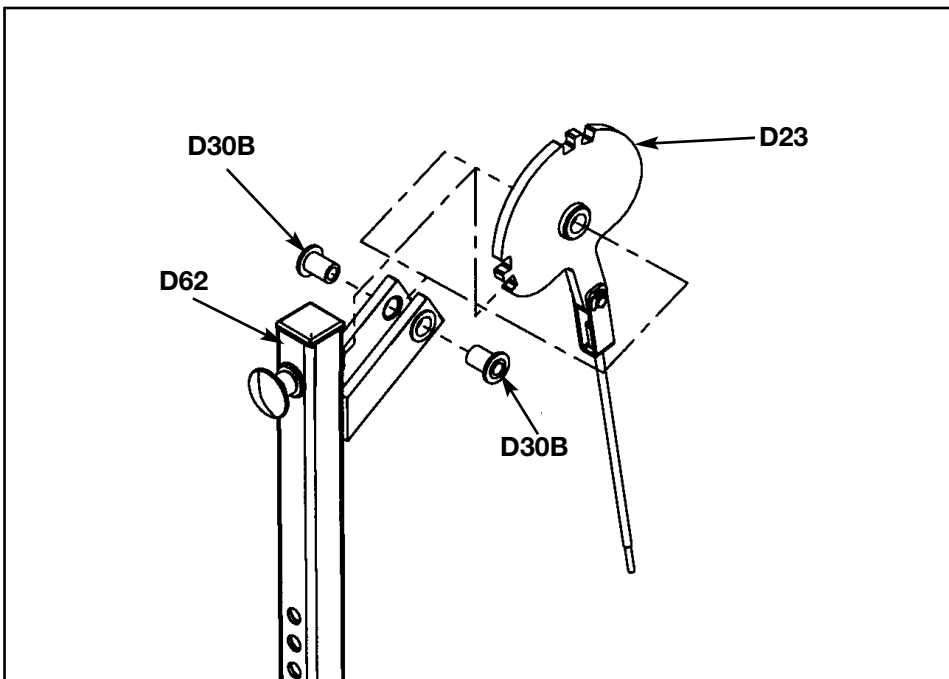

Figure 10
**7. Install cam assembly** (see steps 7A - 7D, Figures 10 and 11).
- B. Attach cam (#D23) to leg bar (#D62) using two inserts (#D30B) as shown in Figure 10.